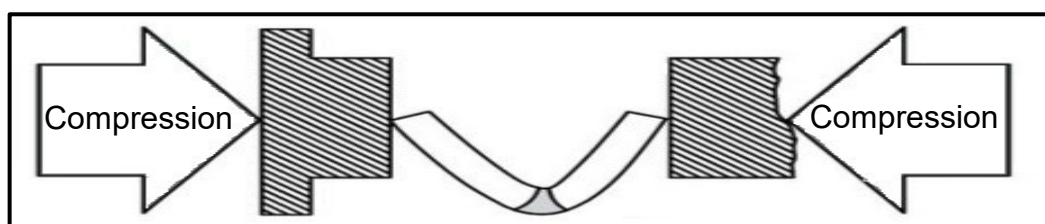

FIGURE 4.12
- (1)
- 4.12 Identify the test shown in FIGURE 4.12 below.